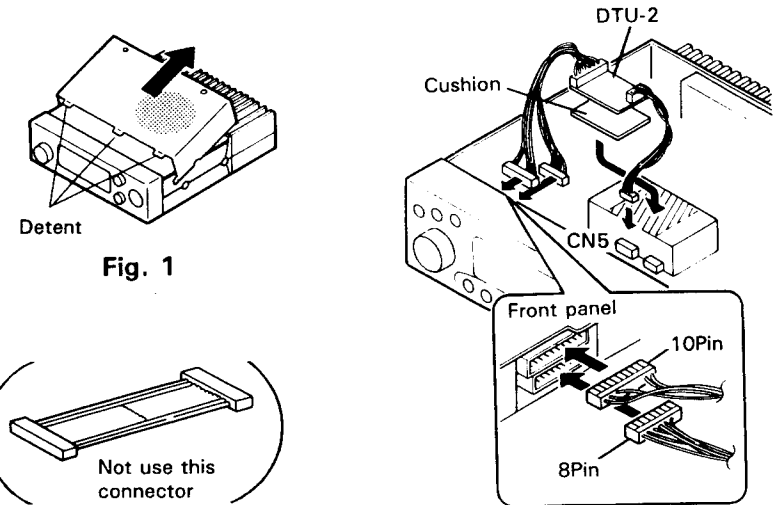

Fig. 2
5. Attach the cable from DTU-2 as shown in Fig. 2.